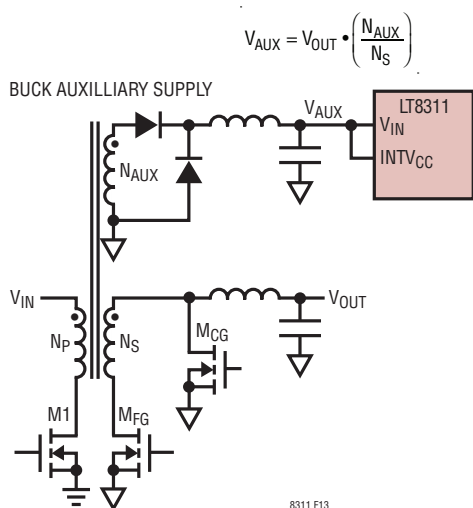

Figure 13. Buck Circuit Generates V_{AUX} Supply, Which Powers LT8311's V_{IN} and $INTV_{CC}$ Pins
3. Use a buck circuit from an auxiliary transformer winding, as shown in Figure 13. This circuit has the benefit of being highly efficient, and is fairly simple to design. It is particularly useful for low output voltage applications (3.3V or 5V) that do not have an external housekeeping supply, and where powering directly from the output voltage is inadequate. In this configuration, the buck circuit's output voltage derives its energy from secondary-side switching pulses that also source energy to the forward converter's main output voltage, V_{OUT} . Careful consideration must be given to ensure that the buck output voltage comes up well in time, and turns on the LT8311 to provide synchronous and opto control before the forward converter's actual output voltage gets close to regulation. If there is a need to speed up